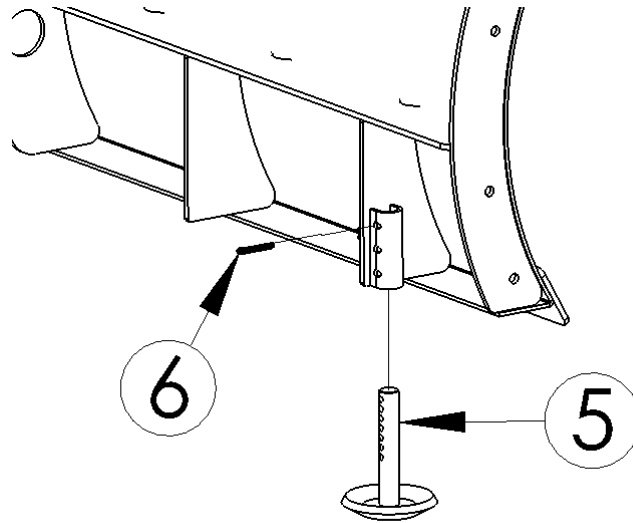

Figure 3
- 3) Install the Skid Feet (#5) onto the blade by sliding the Skid Feet Rods into the guide that is welded to the blade frame. Use the included Cotter Pin (#6) to secure the Skid Feet at the desired height, see **Figure 3**.